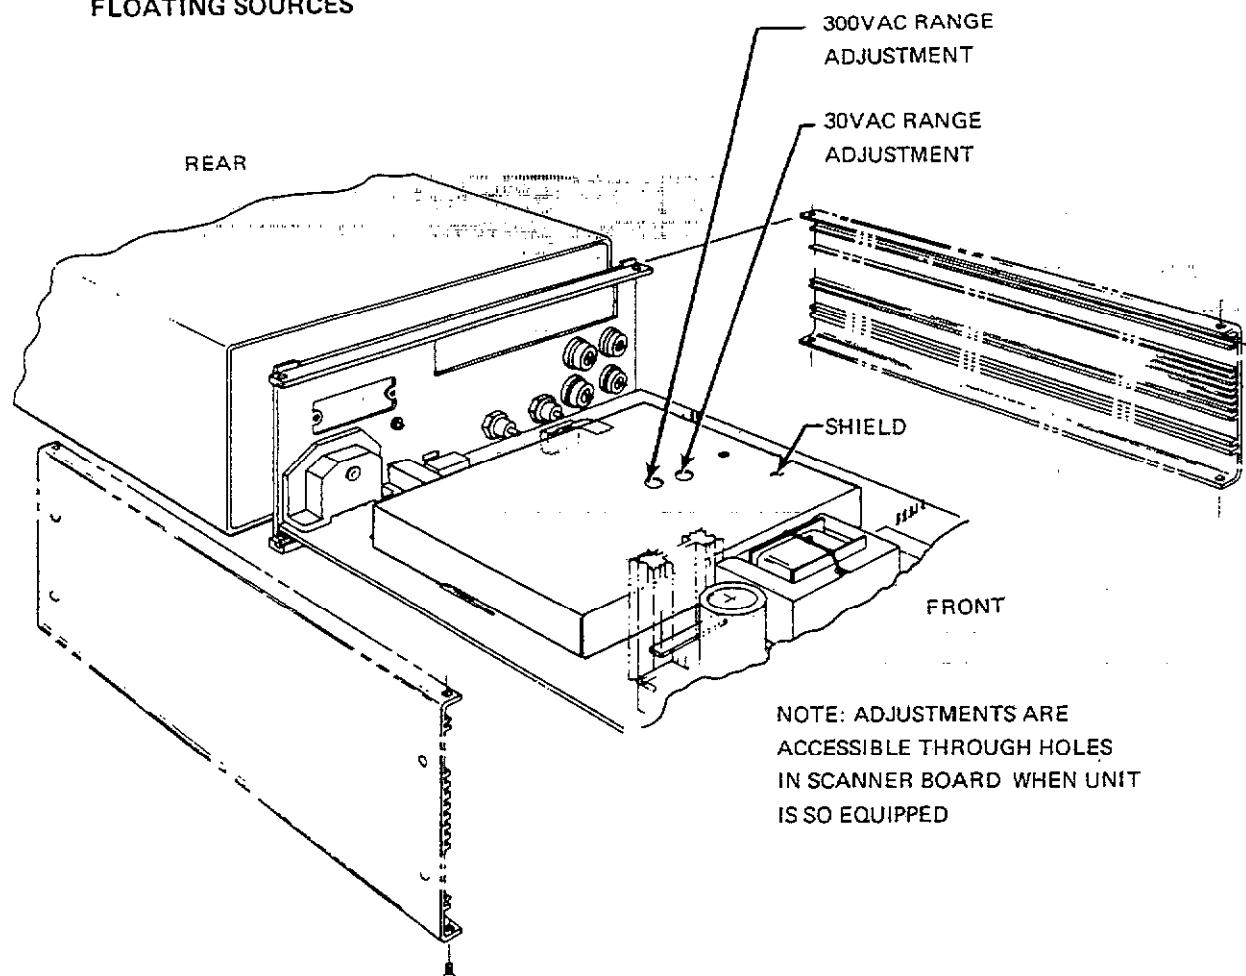

Figure 6-7. TRMS AC Volts High Frequency Calibration Adjustments (30V and 300V Ranges)
- After allowing sufficient time for the measurement to settle, use an insulated alignment tool to adjust the 300V range capacitor C49 (see Figure 6-7) for a display reading of $100.000V \pm 500$ counts.